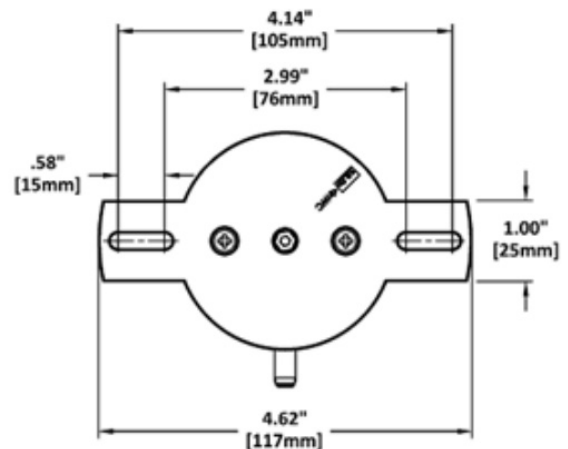

Figure 2 Integrated Mounting Foot Dimensions
- Refer to Figure 2 for the mounting dimensions of the integral foot bracket. Using two slotted hex mounting screws (not included), mount the calibrated ANS2 switch via the integral foot bracket.